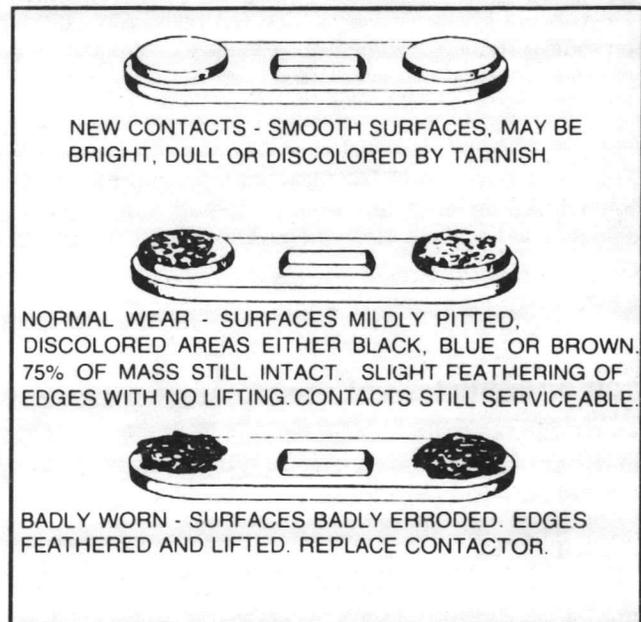

Figure 6 - Compressor Contactor Replacement Guide
- 5. Remove the condensing unit control box cover and inspect the panel wiring. All electrical connections should be secure. Inspect the compressor and condenser fan motor contactors. If the contacts appear severely burned or pitted, replace the contactor (refer to Figure 6). Do not clean the contacts. Inspect the condenser fan capacitors for visible damage.